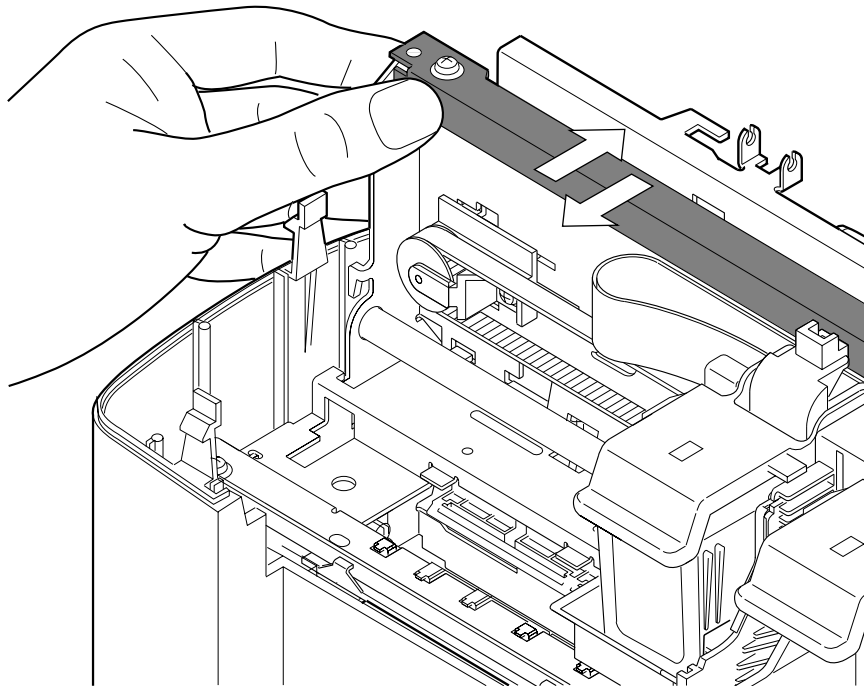

Figure 5-9 Head Gap Adjustment (2)
- 4) Lightly push the screw A end of the carriage guide frame once or twice and check that the carriage guide frame pivots around the screw B as indicated by arrows in Figure 5-9.
- 6) Lightly push the screw A end of the carriage guide frame once or twice and check that the carriage guide frame moves around screw B as shown by the arrows figure 5-9.
- 9) Lightly push the screw B end of the carriage guide frame once or twice and check that the carriage guide frame pivots around screw A as indicated by the arrows shown in Figure 5-9.